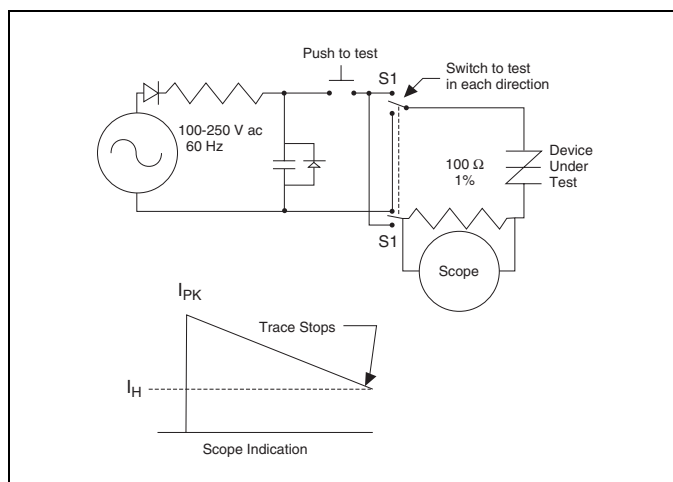

Figure E9.13 Dynamic Holding Current Test Circuit for Sidacs
- See Figure E9.13 for test circuit.